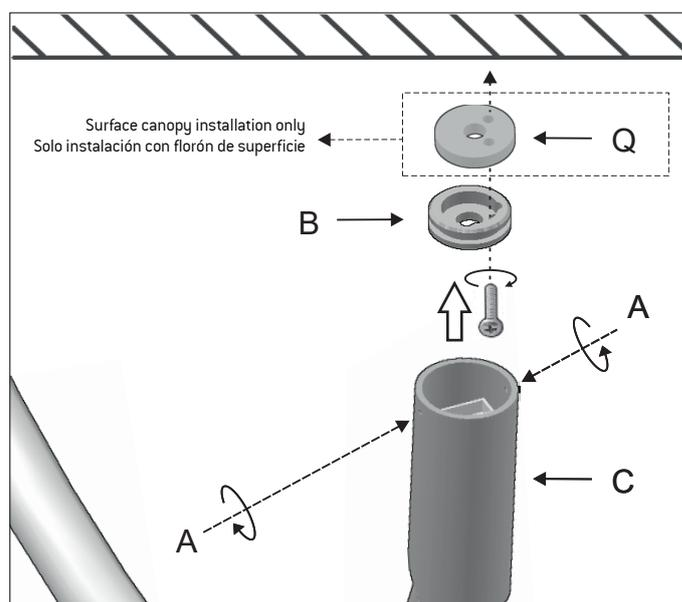

Figure 7
Attach the mounting bracket (B) to the ceiling. Then, attach the fixture body to the mounting bracket (B) using the studs (A) removed in step 1. Figure 7.
Attach the union part (Q) and the mounting bracket (B) to the ceiling. Then, attach the fixture body to the mounting bracket (B) using the studs (A) removed in step 1. Figure 7.